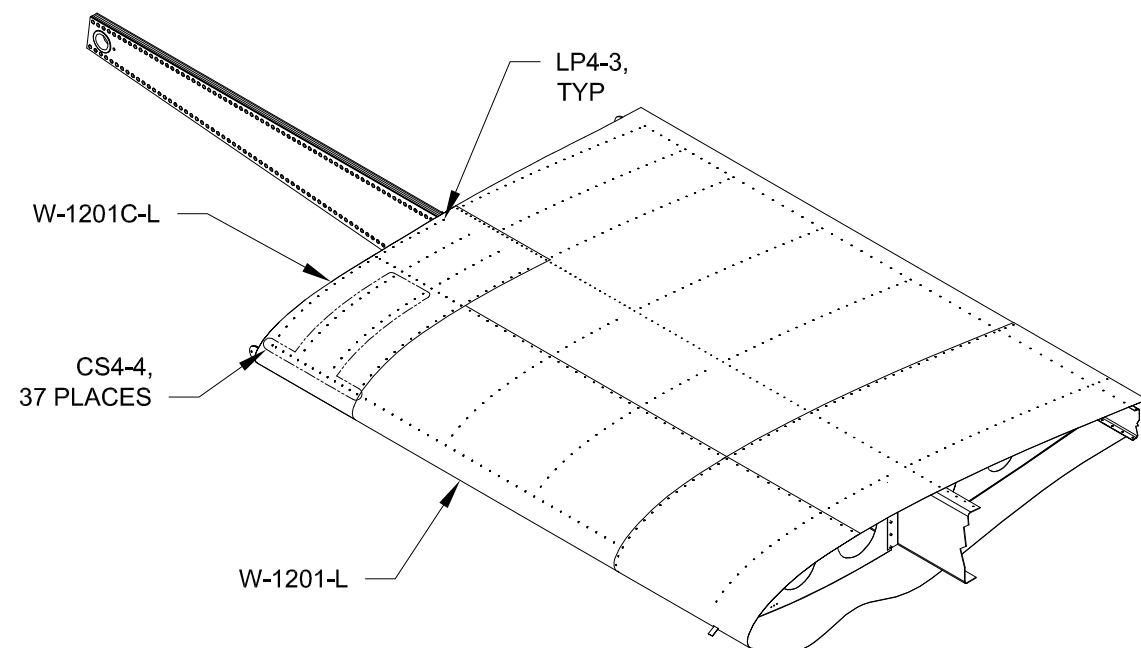

FIGURE 2: ATTACHING WING WALK DOUBLER
Step 4: Cleco the W-1201C-L Wing Walk Doubler to the wing as shown in Figure 2. Begin clecoing at the forward/lower edge of the wing walk doubler and progress up and aft. Cleco the remaining portion of the W-1201-L Inbd Wing Skin to the wing skeleton. Rivet the wing walk doubler and inbd wing skin to the wing. Be sure to use flush-head rivets in the dimpled holes as called-out in Figure 2.